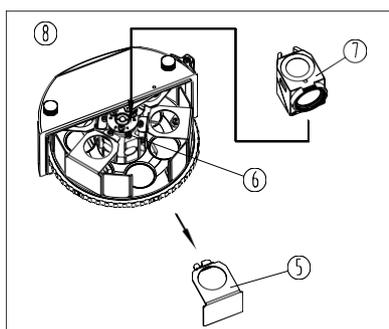

Fig. 3
- (2)The blinker board ⑤ is installed in the fluorescence filter group. When using the fluorescence filter group, first loose the lock screw ⑥ with the inner hexagon spanner, and take off the blinker board ⑤. (See Fig. 3)
- (3) Put the diaphragm slice of the fluorescence filter group ⑦ which is to be assembled upward, and match the dovetail groove of the fluorescence filter group ⑦ with the dovetail wedge of the front cover group ②, and push to the bottom. Tighten the lock screw ⑥.
- (4) Check the ID ⑧ on the dovetail interface, and insert the nameplate ④ of the fluorescence filter group into the interface ③ with the same number in front of the front cover group ②.
- (5) Repeat the steps above, to assemble other fluorescence filter groups into the turntable of the front cover group ②.
- (6) Then match the dovetail wedge of the front cover group ② with the dovetail groove of the turntable epilluminator, and push to the bottom. Tighten the lock screw ①.